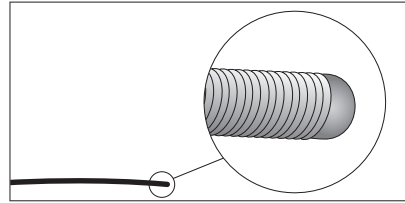

Figure 8
33. Examine tip of stiffening stylet after removal to ensure wire has not been altered (refer to Figure 8).